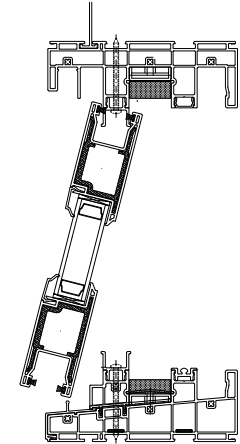

Figure 2
A. Installing the fixed panels (Figure 2)